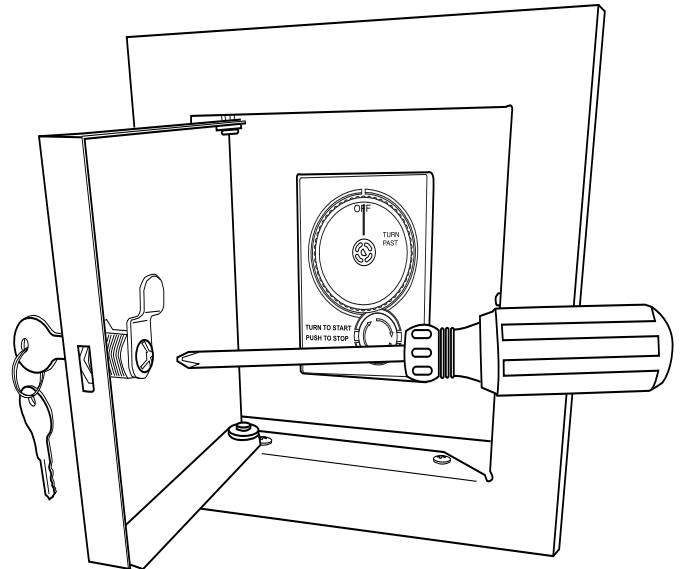

Fig. 9 Removing lock set latch.
Step 1: Open the locking door and insert a Phillips screwdriver into the end of the lock to remove the latch as shown in Fig. 9.